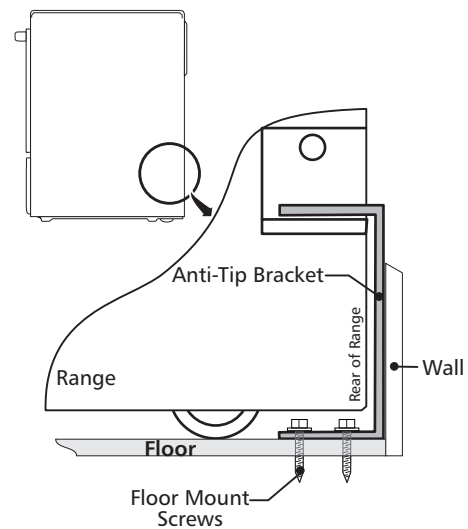

Figure 17
4. Remove template and place bracket on floor. Line up holes in bracket with marks on floor and attach with 4 screws provided. Bracket must be secured to solid floor (Figure 17). If attaching to concrete floor, first drill 3/16" (0,48 cm) dia. pilot holes using masonry drill bit.
6. Slide range into place making sure structure of the range is trapped by the anti-tip bracket (Figure 17). Lower the range by adjusting the 4 levelling legs until the underside of the cooktop is sitting level on the countertop. Refer to "Levelling the Range" section.